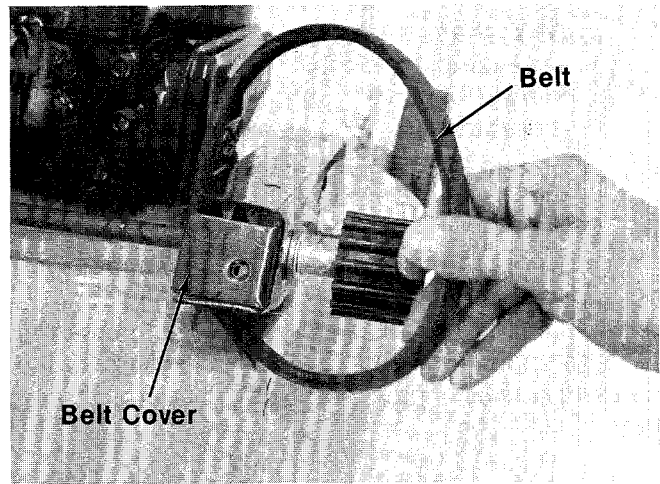

FIGURE 25.
- Remove the belt from the engine pulley, idler pulley and drive shaft. Slip belt up over belt cover and forward to remove from mower. See figure 25.